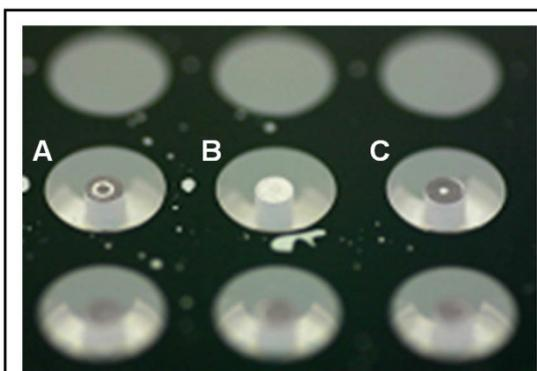

Figure 3. Stoppers that are:
2. Visually inspect the underside of the populated 96-well plate to ensure that the Cell Seeding Stoppers are firmly sealed against the bottom of the plate. To inspect the stoppers, turn the plate over and examine the stoppers for sealing (see **Figure 3**). If incomplete sealing is observed, return the plate to the upright position and use a sterile instrument to gently push the stopper back into the well until sealing is observed.